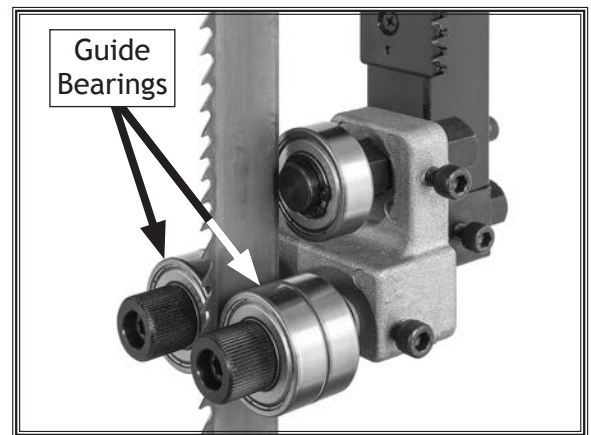

Figure 52. Upper blade guide roller bearing assembly installed (guide post cover removed for clarity).
4. Install upper blade guide bearing assembly on guide post (see **Figure 52**). Finger-tighten cap screws.